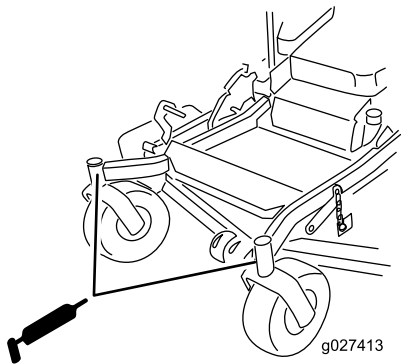

Figure 41
9. Remove the grease fitting in the hole. Install the hex plug and dust cap (Figure 41).